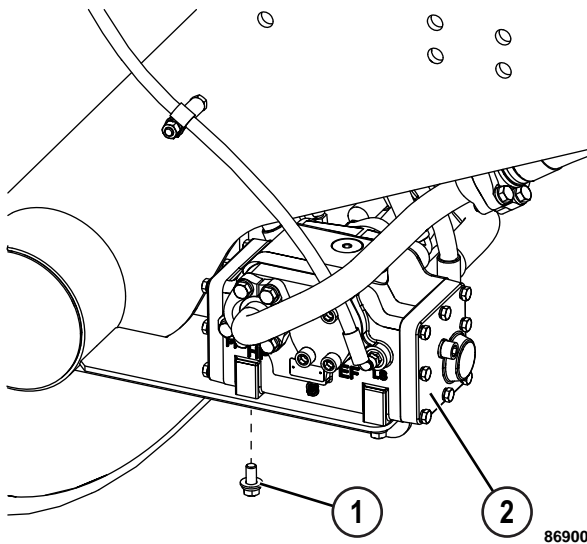

FIGURE 50-25. FLOW AMPLIFIER
10. Remove mounting hardware (1, Figure 50-25), then remove flow amplifier (2).
1. Move flow amplifier (2, Figure 50-25) into position and support the flow amplifier against the mounting bracket.
2. Install and tighten mounting hardware (1) to the standard torque.